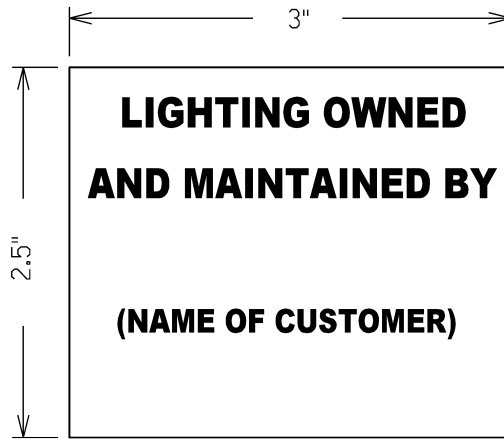

Figure 60 – Ownership Identification Label for Customer Owned Outdoor Luminaires
Ownership Identification: The customer is responsible to label all customer owned outdoor lighting luminaires in accordance with PPL Construction Standards and license or service agreements. See Figures 60 and 61.
2. Ownership identification labels shall be reflective white with black lettering. See Figure 60.